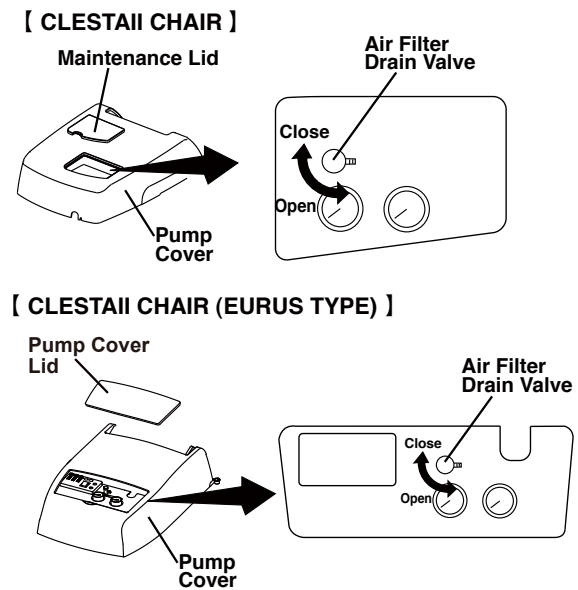

Fig.5-16 Air Filter Drain Valve
(9) Air Filter Drain Valve (**Fig.5-16**)